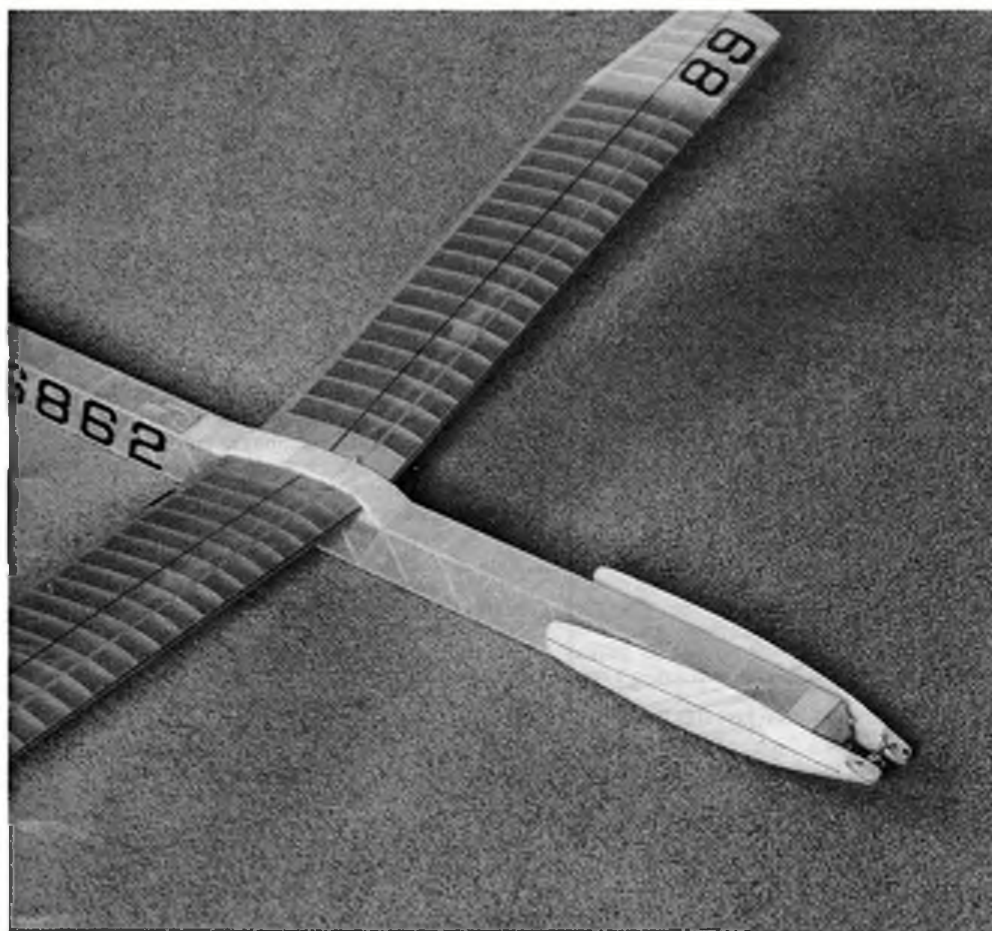

Fig. 2: Model typical wing loadings and Reynolds Numbers
The table at Fig. 2 shows typical Reynolds Numbers for model aircraft. The air flow about the aerofoil is subject to inertia (or pressure) forces, and also to viscous (or friction) forces. Higher Reynolds Number (RN) indicates that the inertia forces are dominant, while low RN indicates that the viscous forces assume importance. In wind-tunnel testing it is difficult to achieve the appropriate RN in relation to full-size, and pressurised tunnels or water tunnels are sometimes used to increase RN. In investigating the response and handling of the Gossamer Albatross man-powered aircraft, Paul McCready utilised small models tested in a swimming pool. Most wind tunnel testing has been carried out at RN greater than 300,000 which is beyond the critical range in which models operate. Some tunnels will run at model RN values, but measuring the forces, particularly drag, is difficult to achieve with accuracy because the forces themselves become so small.